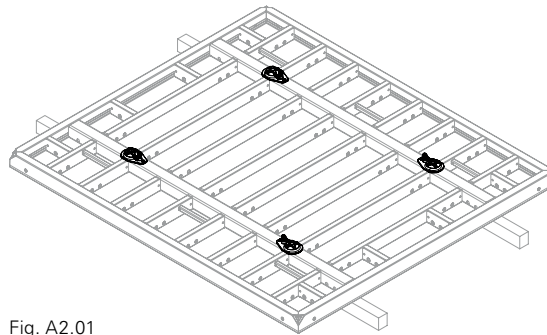

Fig. A2.01
1. Mount one articulated nut at each tie point, see Section A5. (Fig. A2.01)